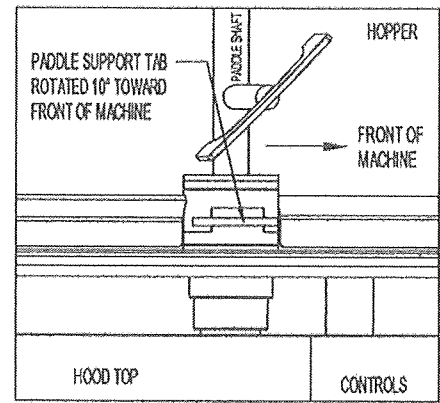

FIGURE 1
1. Jog mixer paddle shafts until the paddle support tab is located on the top of the drive hub and rotated slightly toward the front of machine (figure 1 top view). Be sure to unplug machine from power source before proceeding.